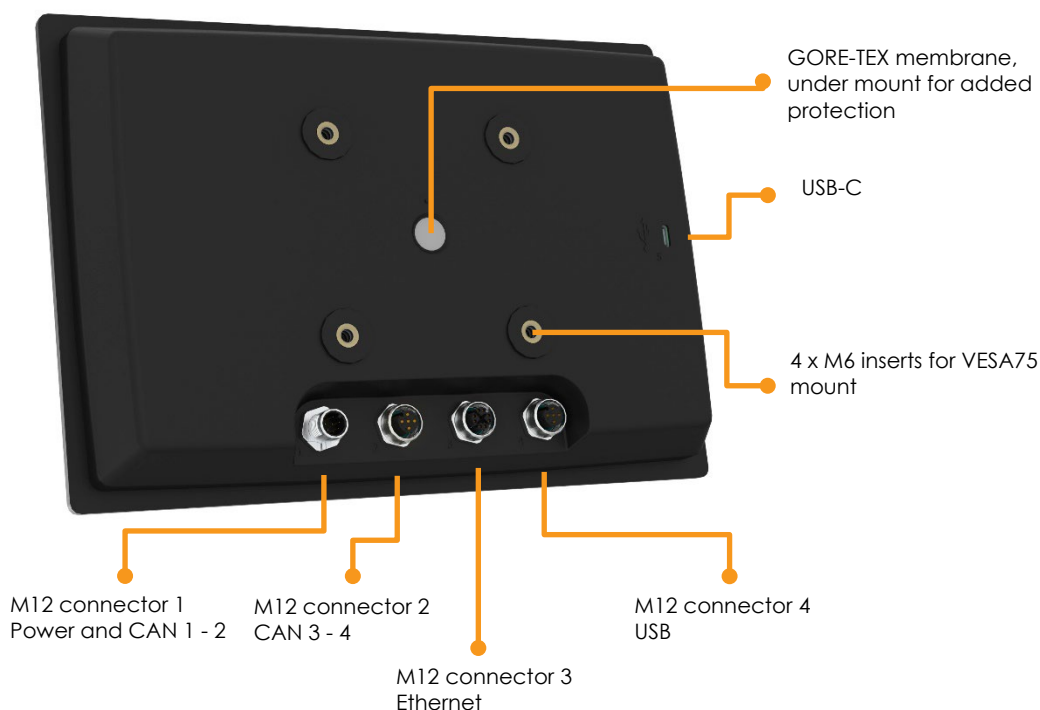

Figure 3: CCpilot V1000/V1200 rear side view
- The device has a ventilation membrane, refer to Figure 3 for the location. For proper ventilation of the device, dirt and water must be prevented from accumulating and covering the membrane. Be cautious not to insert objects which may puncture the membrane. Doing so will violate the IP-classification and void the warranty of the device.